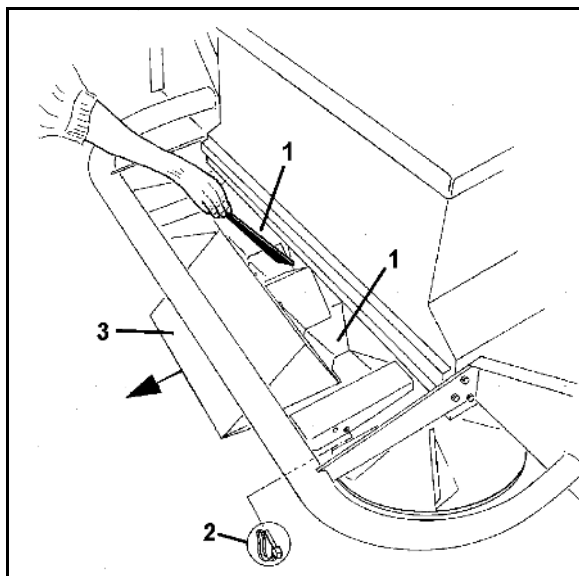

Fig. 99
Spreading material can build up inside the outlet openings (Fig. 99/1) of the guide chute to become too narrow to achieve a correct spread pattern. To achieve a correct spread pattern ensure that both outlets are clean. Therefore before every operation of the bulk spreader check or clean the outlets as follows
1. Remove guide chute. (Fig. 99/3).
2. Check or clean the outlet openings (Fig. 99/1).
3. Push guide chute back into position and affix by two clip pins (Fig. 99/2).